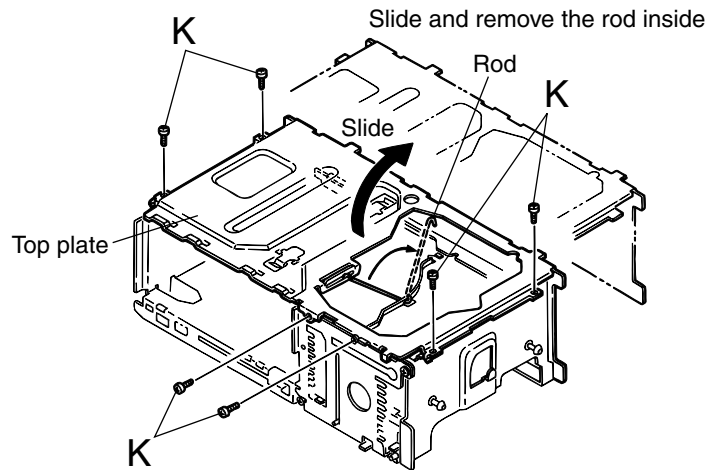

Fig. 17
■ Top plate (See Fig.17 and 18)